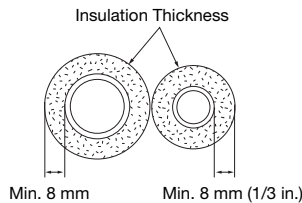

Figure 4
- Insulate both lines, liquid (narrow tube) and suction (wide tube), to prevent heat loss and wet floor due to dripping of chilled condensation. Apply proper insulation material, minimum thickness should be 8 mm (1/3 in.) (Figure 4).